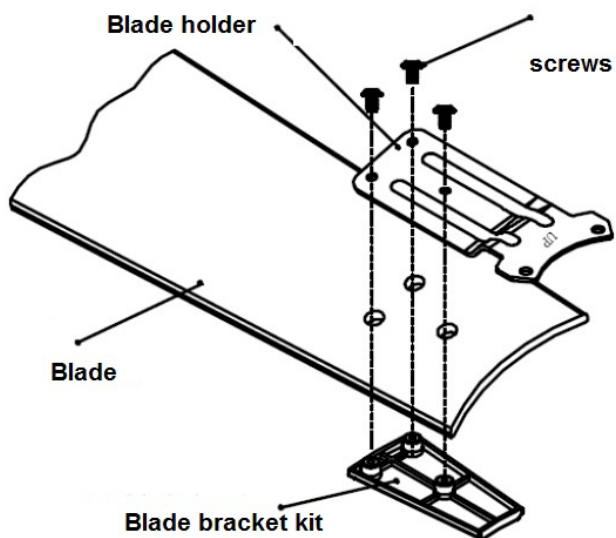

Fig. 8
- Attach the blade to blade bracket kit and secure the blade to blade holder by tightening 3 screws. Fig. 8